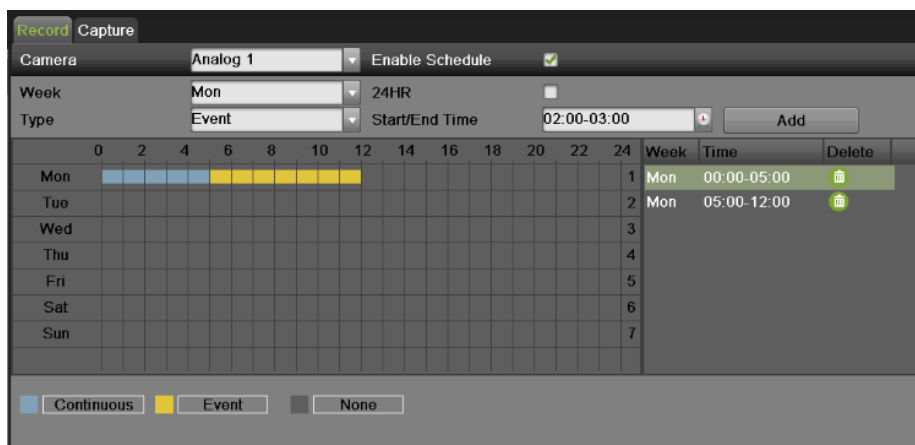

Figure 40 Record Schedule Configuration Example
- 4) Select the Add button to add time frame to schedule. The newly added time frame will appear in the schedule on the right. You can click  to delete the selected time period on the right. Continuous recordings are shown in blue on the schedule while event recordings are shown in yellow. An example of this can be seen in Figure 40.